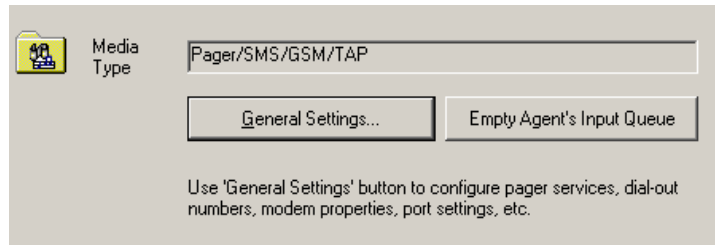

Figure 4.15. Pager Agent: General Settings
Step 3: In the Multimedia Configurator, open the **Alarm Configurations** folder and the **Multimedia Agents** subfolder. Click on **Pager/SMS/GSM/TAP**, and then click on the **General Settings** button located on the right-hand side of the window, as shown in **Figure 4.15**.